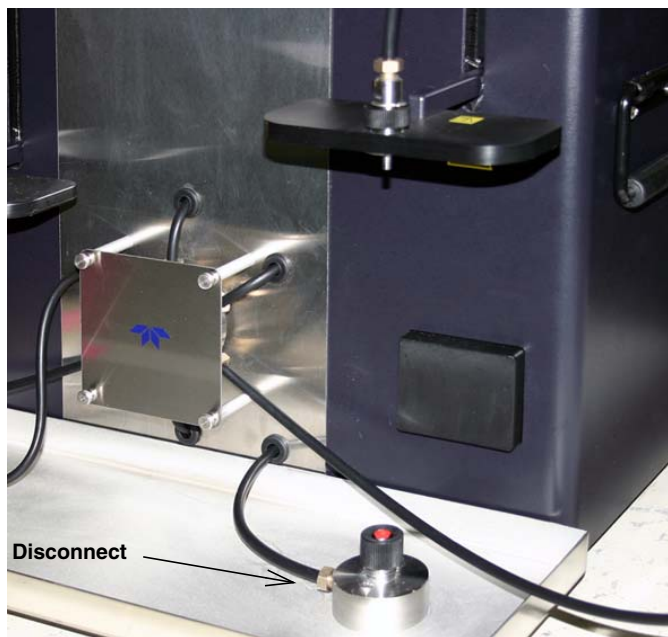

Figure 1-6 Torrent: disconnect tubing from bottom column connection
4. On the Torrent, disconnect the black PTFE tubing end from the bottom column connection (Figure 1-6).